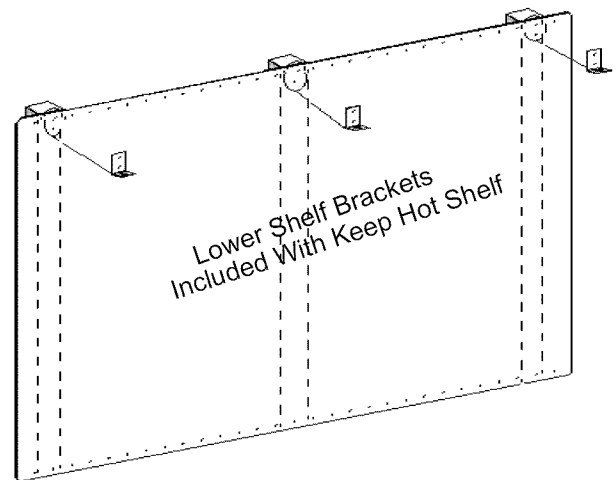

Figure 17: Backsplash with a Keep Hot Shelf
3. At the locations indicated in *Figure 17*, mount the lower shelf brackets included with the Keep Hot Shelf through the Backsplash and into the wall studs.